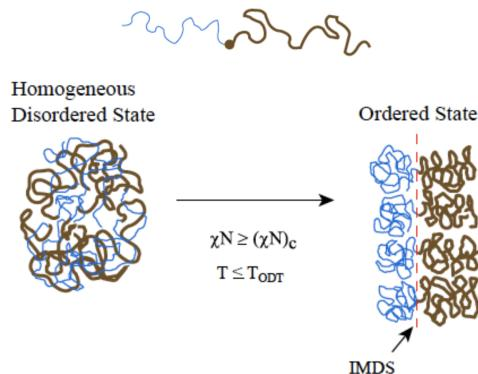

Figure 2.16: Ordering of a diblock copolymer.
- The subscript *c* in Figure 2.16 means “critical.”